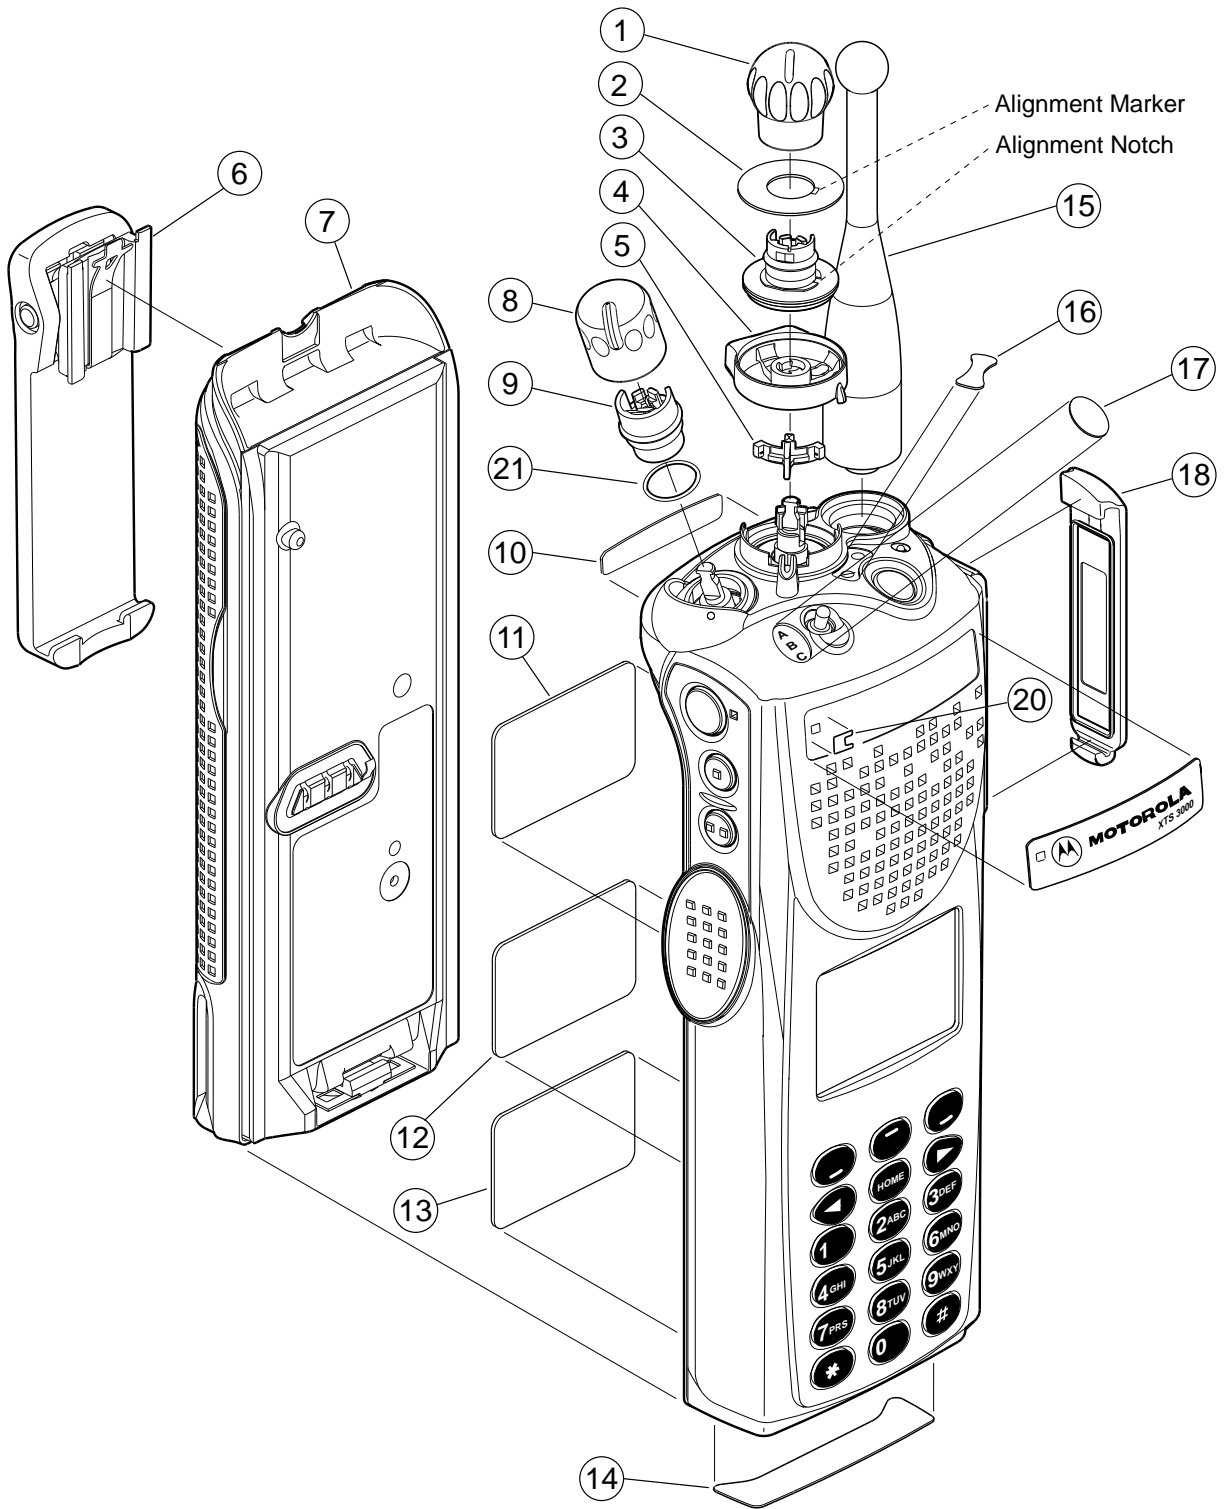

Figure 8 Partial Exploded View
- Refer to Figure 8, the Partial Exploded View, and Table 12, the Partial Exploded View Parts List. Numbers in parentheses () refer to item numbers in Figure 8 and Table 12.
- The battery (7) should be removed from the radio before installing or removing the frequency knob (1).
- The battery (7) should be removed from the radio before installing or removing the volume knob (8).